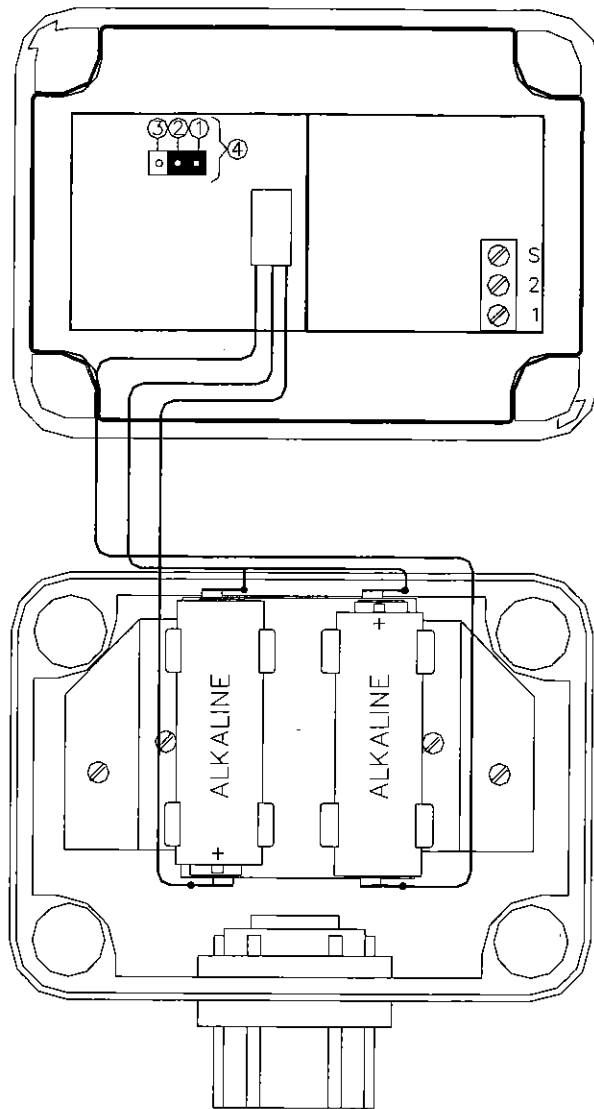

Figure 2-7 Battery Jumper (shown configured for alkalines)
To change from one battery type to another (Figure 2-7):
- Alkaline terminal ①
- Common terminal ②
- Lithium terminal ③
- Between the alkaline terminal ① and the common terminal ② for alkaline usage (as shown in Figure 2-7)
- Between the lithium terminal ③ and the common terminal ② for lithium usage